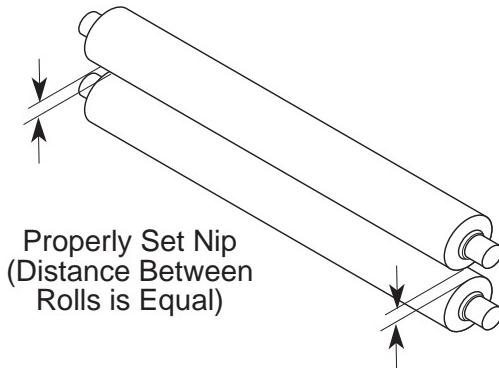

Figure 4-5: Properly Set Nip
5. Adjust the nip by turning the adjusting bolt using an $\frac{3}{4}$ " open end wrench (clockwise to lower the roll end and counter clockwise to raise the roll end). Adjust the ends of the upper main roll until there is an even gap between the rolls as shown in Figure 4-5.